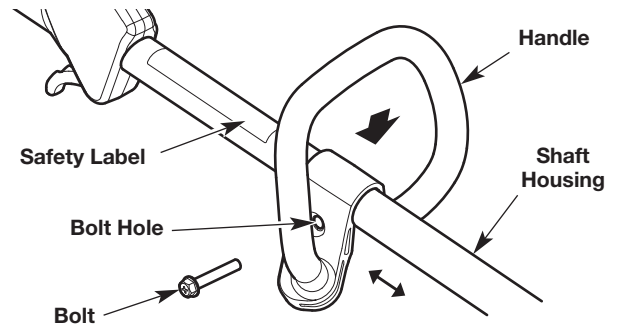

Fig. 3
1. Push the handle down onto the shaft housing (Fig. 3). Make sure the bolt hole faces to the right (Fig. 3).
2. Insert the bolt into the bolt hole and push it through (Fig. 3). Tighten the bolt with a flat-head screwdriver, but do not tighten the bolt completely.
3. Hold the unit in the operating position (Fig. 11) and move the handle to a comfortable location (Fig. 3). Make sure the handle is positioned beyond the end of the safety label (Fig. 3).
1. Loosen the bolt with a flat-head screwdriver (Fig. 3).
2. Hold the unit in the operating position (Fig. 11) and move the handle to a comfortable location (Fig. 3). Make sure the handle is positioned beyond the end of the safety label (Fig. 3).